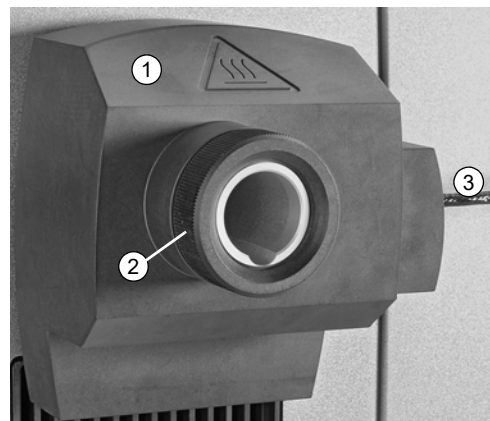

Fig. 6: Syringe heating accessory installed
15. Slide the insulation cover (1, fig. 6) over the heater unit.
16. Fix the insulation cover with the knurled screw (2, fig. 6).
17. Connect the cable of the heating circuit (3, fig. 6) to the corresponding connector (20, fig. 2) at the rear of DMA 4200 M.